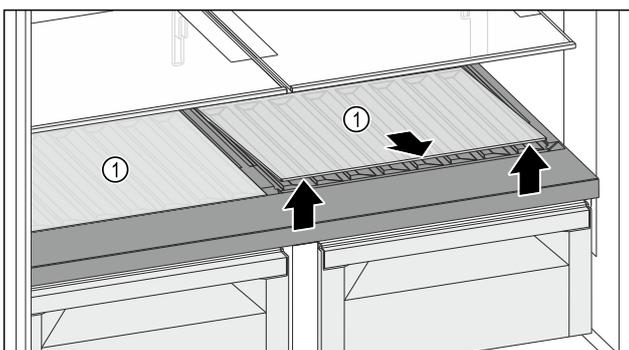

Fig. 131
- ▶ Lift one or both glass shelves Fig. 131 (1) at the front and remove.
- ▶ Store the glass shelf(s) Fig. 131 (1) in a secure place outside the appliance.